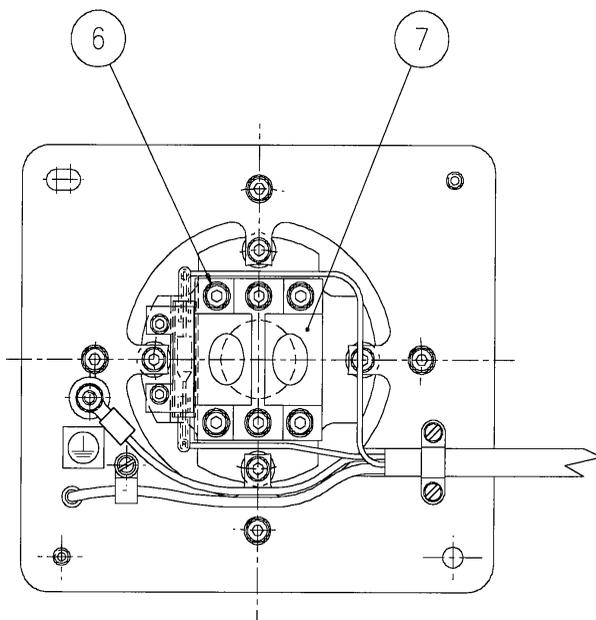

Figure 4. Underside view looking at bottom section of Reaction Cell Top Plate
To gain access and to remove the bottom smaller diameter O-ring seal The Reaction Cell Top Plate has to be removed from the Golden Gate™ optical unit. (See Figures 4 and 5).
To gain access to the diamond ATR crystal surface, should this require cleaning, then the reaction chamber must be removed from the heated diamond assembly plate by unscrewing the six M4 socket head screws (6) that pass through the diamond/tungsten carbide support/clamp bracket (7) (see Figure 4.).